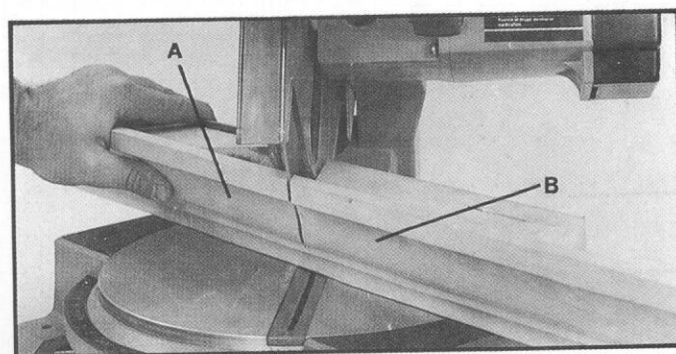
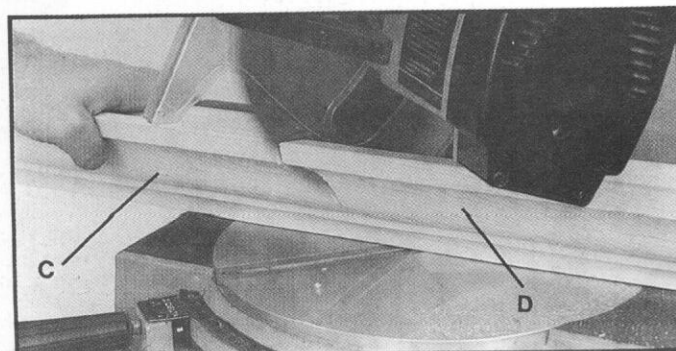

Fig. 60
Fig. 61
Fig. 60 illustrates the miter box arm in the 45 degree right miter position and the filler blocks fastened to the fence so that the moulding will be in the same position as it would be when nailed between the ceiling and wall. When making this cut the moulding (A) on the left of the saw blade will be for an outside corner and the moulding (B) on the right of the saw blade will be for an inside corner. To cut the mating pieces for mouldings (A) and (B) Fig. 60, simply rotate the miter box arm to the 45 degree left miter position and make the cut, as shown in Fig. 61. In this case the moulding (C) on the left of the saw blade will be for an inside corner and the moulding (D) on the right of the saw blade will be for an outside corner.